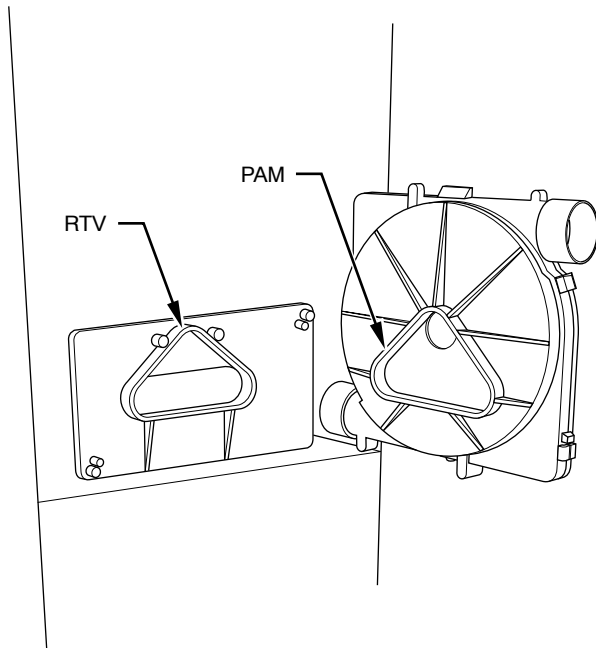

Fig. 12 - Gasket on Collector Box
- Reassemble inducer assembly by reversing items 3-7. Tighten the vent coupling clamp screw(s) to 15 in.-lb of torque.
**NOTE:** If seal between the inducer housing and the collector box is damaged in any way, it must be repaired. To repair, apply sealant releasing agent such as PAM cooking spray or equivalent (must not contain corn nor canola oil, halogenated hydrocarbons nor aromatic content, to prevent inadequate seal from occurring) to inducer housing. (See Fig. 12.) Apply a small bead of G.E. RTV 162, G.E. RTV 6702, or Dow-Corning RTV 738 sealant to groove in collector box.